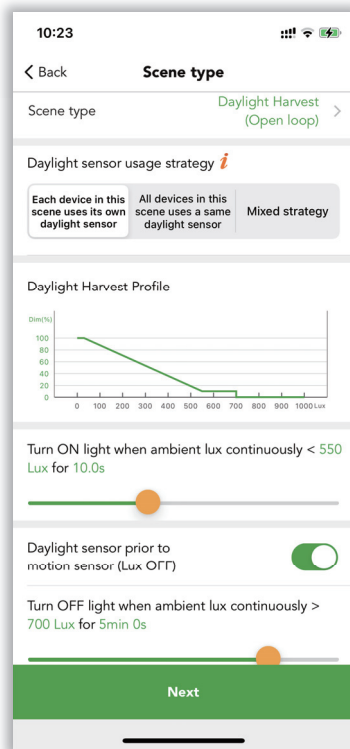

Figure 6.9 Open loop
- Daylight sensor usage strategy (see figure 6.9)